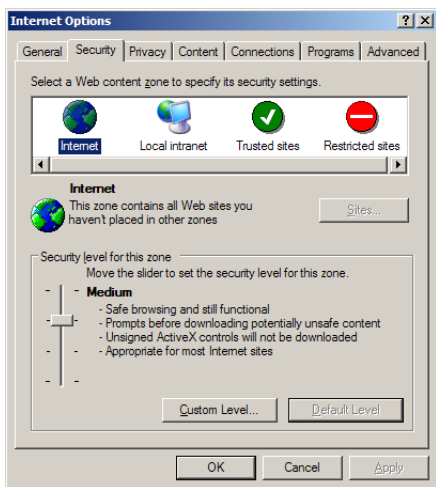

Figure 6-4 Default Internet Security Settings
8. In the Settings list, locate the ActiveX controls and plug-ins and select the following options (See Figure 6-4):